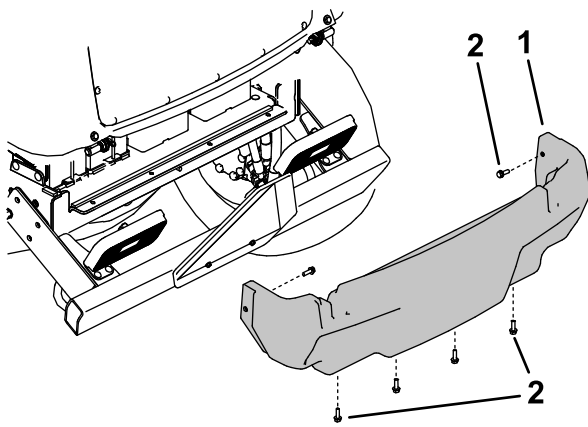

Figure 109
5. Remove the 6 flange screws securing rear shroud to the frame and remove the rear shroud (Figure 109).
4. Install the rear shroud (Figure 109).